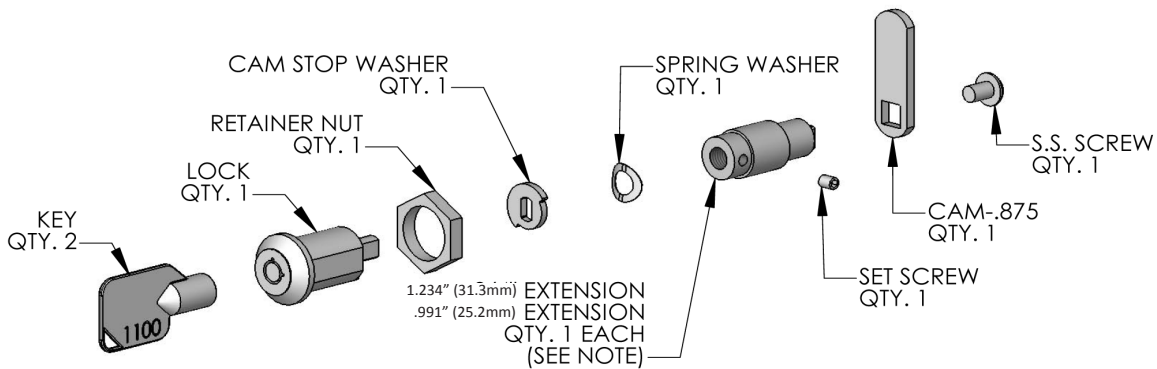

Figure 10
Two (2) lock extensions are supplied with the lock. Use the longer extension for a 3/4" thick overlay panel and the shorter one for a 5/8" thick panel. Assemble the lock extension, cam stop washer, spring washer, and set screw to the lock as shown in Figure 10 and 11. Install this assembly into the overlay panel and secure with the retaining nut using a 15mm socket. Make sure the key slot in the lock is vertical.